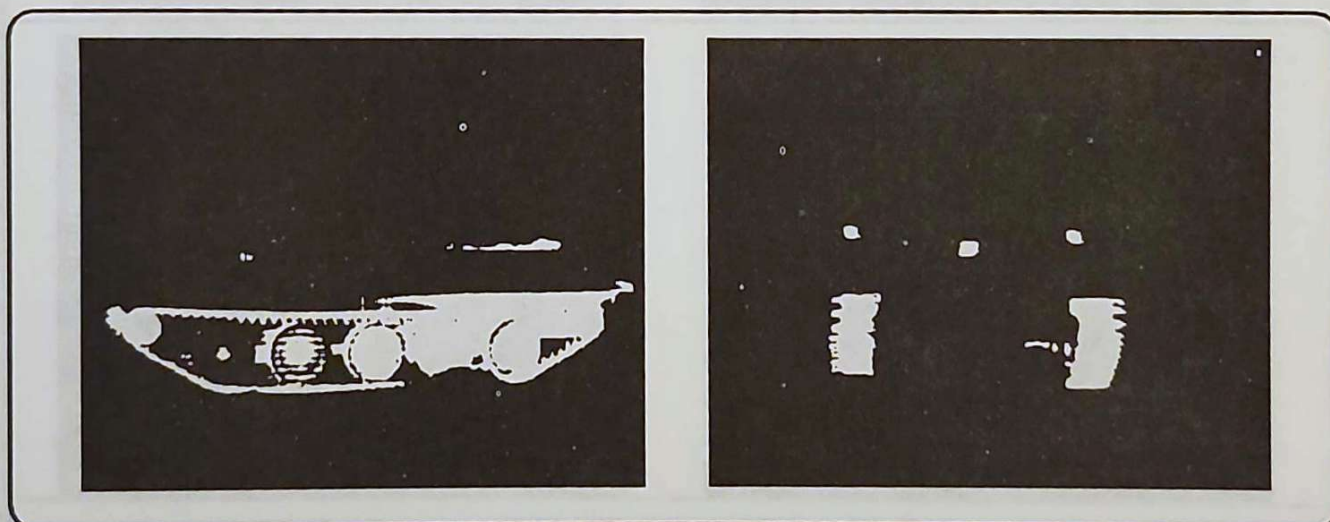

Figure A-2. M551 light tank.
b. M551 Light Tank (Figure A-2).